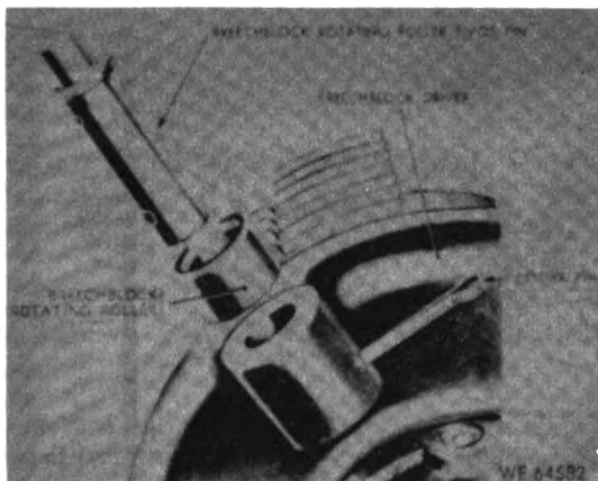

Figure 119. Breechblock rotating roller and pivot pin.
breechblock driver (fig. 119). Withdraw the pivot pin from the driver to release and remove the breechblock rotating roller.
*a. Assemble Breechblock Rotating Roller.* Slide the breechblock rotating roller (fig. 119) onto the breechblock rotating roller pivot pin, and install the pin and roller in the breechblock driver. Install the cotter pin to secure the roller and pivot pin in position.